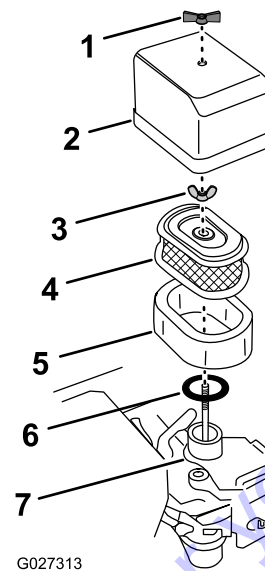

Figure 19
3. Wipe the air filter cover (Figure 19) so that it is clean.
4. Remove the wing nut that secures the air-filter cover to the carburetor and remove the cover (Figure 19).
5. Remove the foam filter element from the paper filter element (Figure 19).
7. Remove the wing nut that secures the paper filter element to the carburetor (Figure 19).
4. Assemble the foam element onto the paper filter element (Figure 19).
1. Wipe clean the dirt from the carburetor base and the inside of the cover with a moist rag (Figure 19).
2. Ensure that the rubber gasket is aligned and seated onto the mounting base of the carburetor (Figure 19).
3. Align the paper filter element with the carburetor and ensure that the hold-down rod of the carburetor passes through the top plate of the filter (Figure 19).
4. Secure the filter to the carburetor with the filter wing nut and tighten it finger tight (Figure 19).
5. Align the air-filter cover over the air filter elements with the hold-down rod of the carburetor passing through the top cover (Figure 19).
6. Secure the cover to the engine with the cover wing nut and tighten it finger tight (Figure 19).